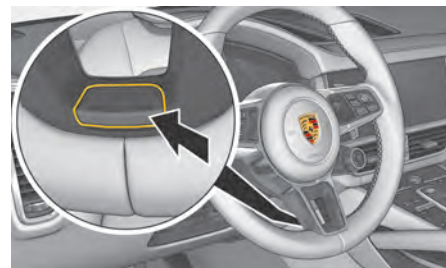

Fig. 208: Heated steering wheel button
- ▶ Press the button on the central steering wheel spoke (Fig. 208), until a message appears briefly on the instrument cluster.